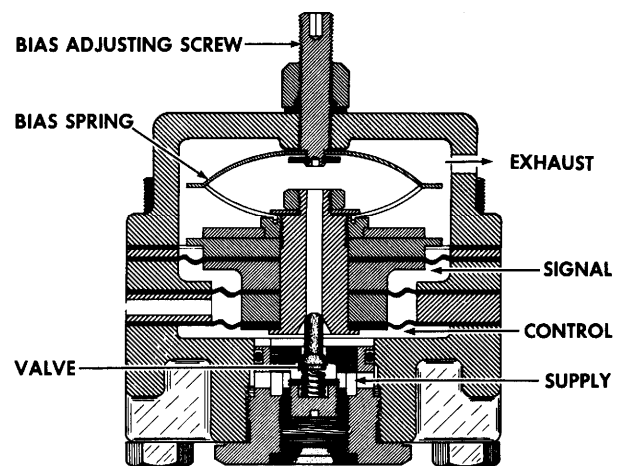

Figure 2
1. VALVE SPRING (Refer to Figures 2 and 3)